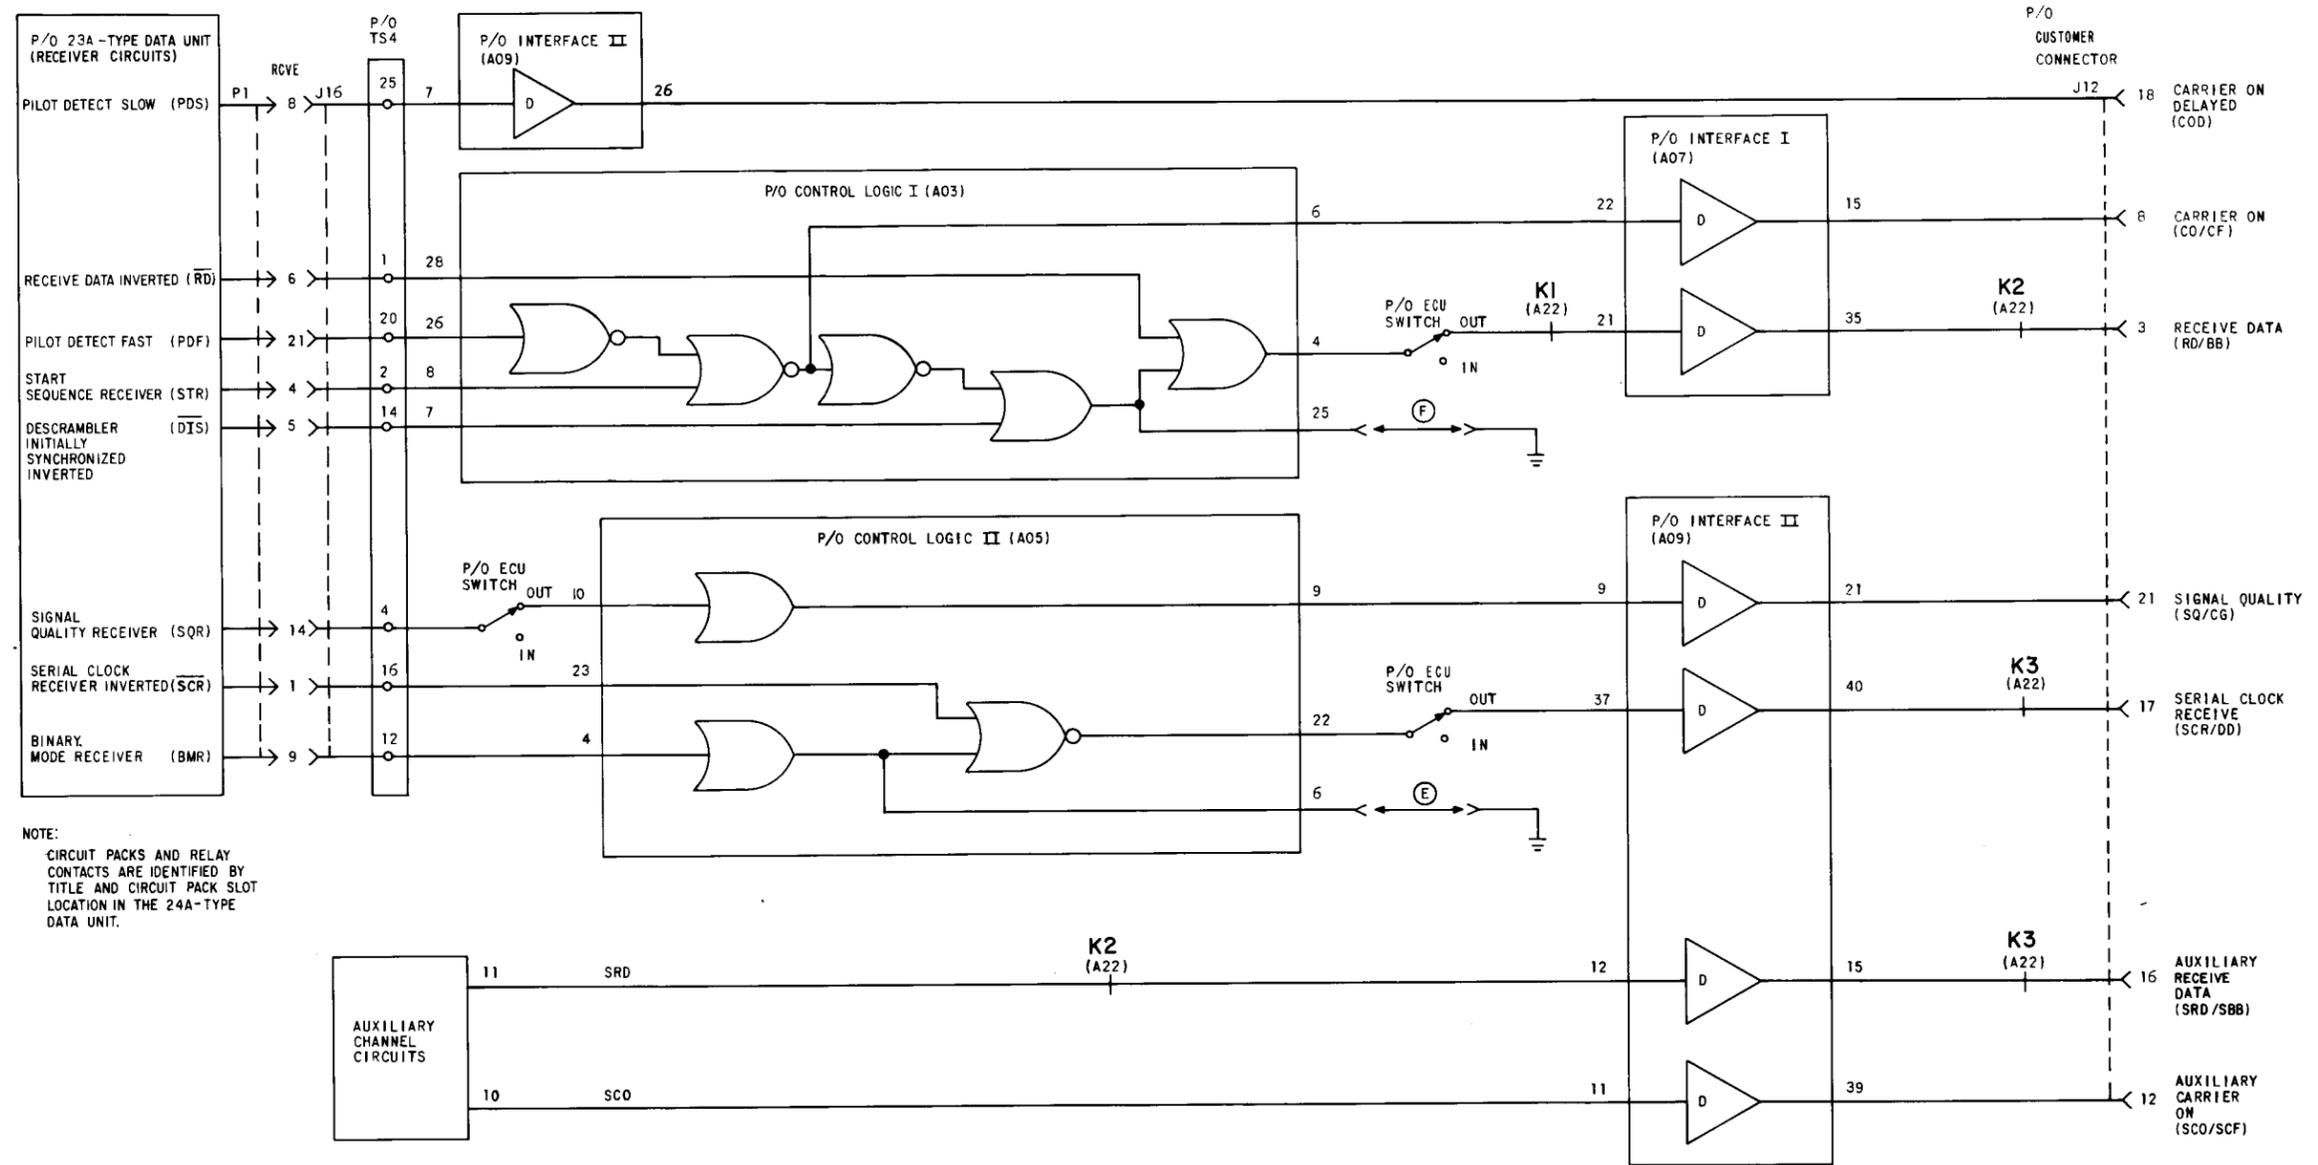

Fig. 14—Data Set 203-Type: 24A-Type Data Unit, Receiving Circuits, Simplified Block Diagram
**2.64** A simplified block diagram of the receiver circuits through the 24A-type Data Unit is shown in Fig. 14.